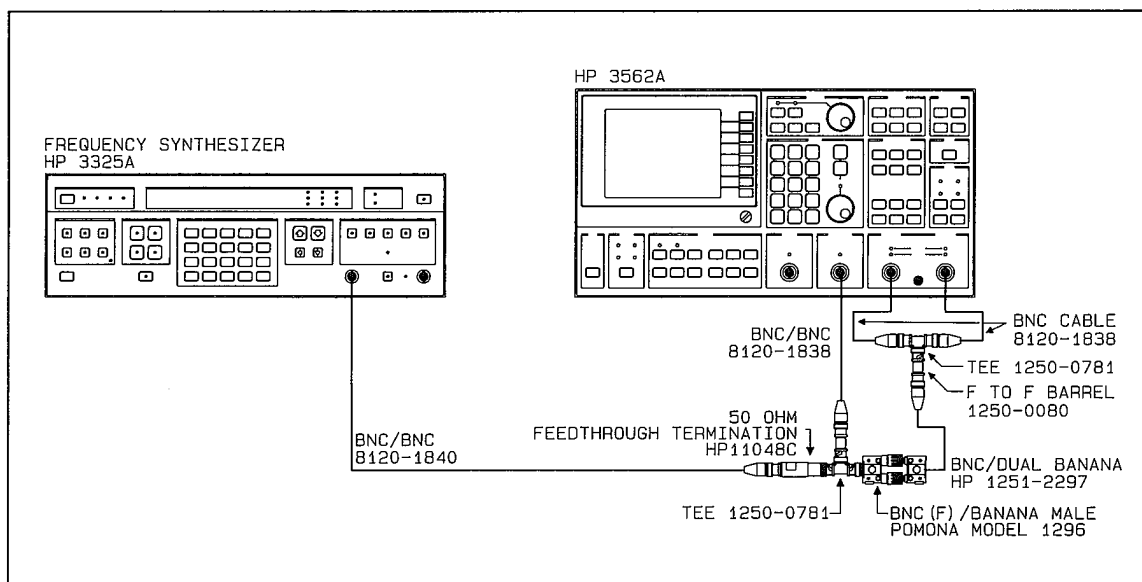

Figure 2-18 Single Channel Phase Accuracy Test Setup
- Connect the test instruments as shown in figure 2-18. Refer to "Initial Equipment Setup", paragraph 2-20, for unspecified parameters.